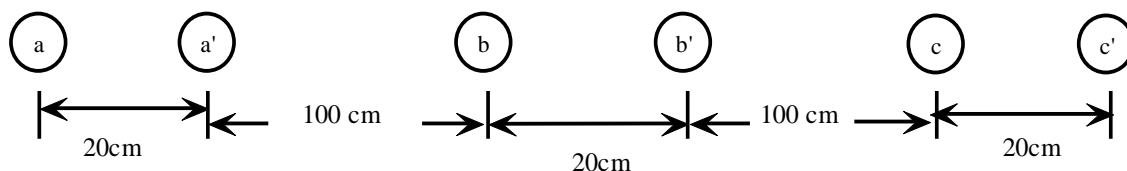

Fig. Q2(c)
- 2C.** Define Geometric mean radius of a conductor. A 3-phase transmission line is composed of 2 bundled conductors per phase with horizontal configuration as shown in Fig. Q2(C). Find the inductance and capacitance per km length of the line, if the radius of each conductor in the bundle is 1.725 cm. Take bundle spacing (20 cm) into account while calculating GMD. **(05)**